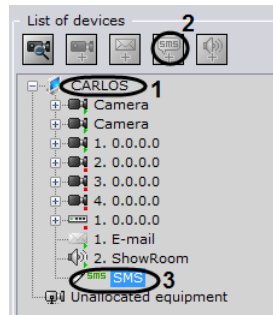

Fig. 6.3—28 Creating an SMS object
1. In the list of devices, highlight a **Server** object (Fig. 6.3—28, 1)
2. Click the  button (Fig. 6.3—28, 2).